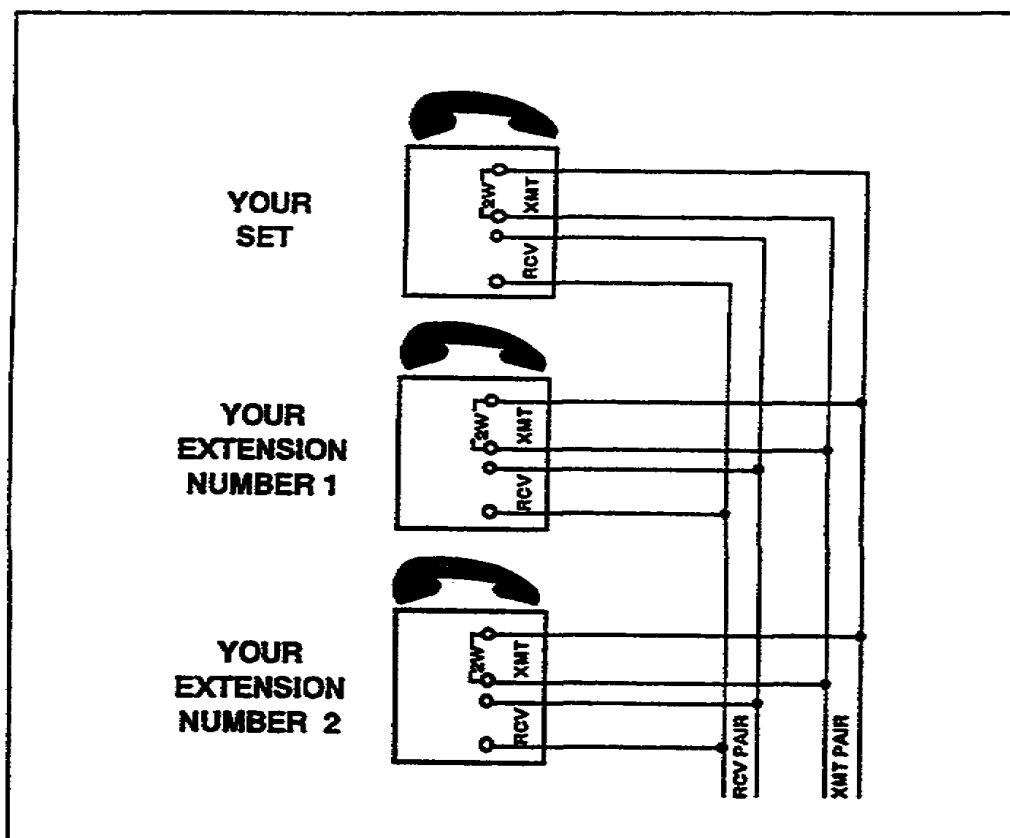

Figure 1-21. Extension service.
a. One or more extension sets may be connected as shown in Figure 1-21. All XMITs are connected together and all RCVs are connected together. This applies to all extensions connected to the main line of the telephone.